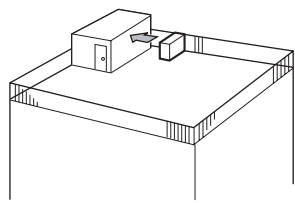

Fig. 2-3
- ① Face the air outlet towards the nearest available wall about 500 mm, 19-11/16 inch away from the wall. (Fig. 2-3)